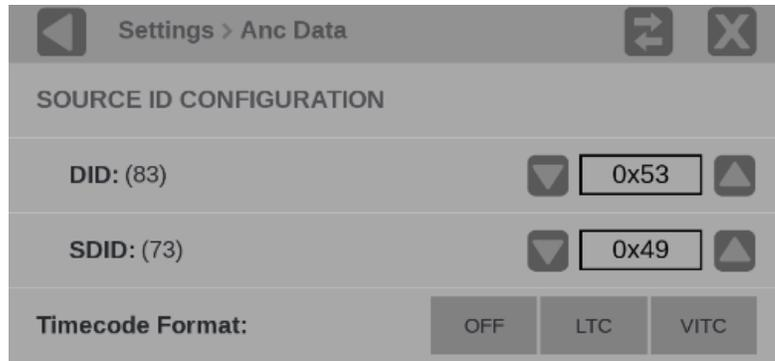

Figure 56: Reference configuration Anc Data
2. Select **Anc Data** to open the Anc Data submenu. (See Figure 56.)